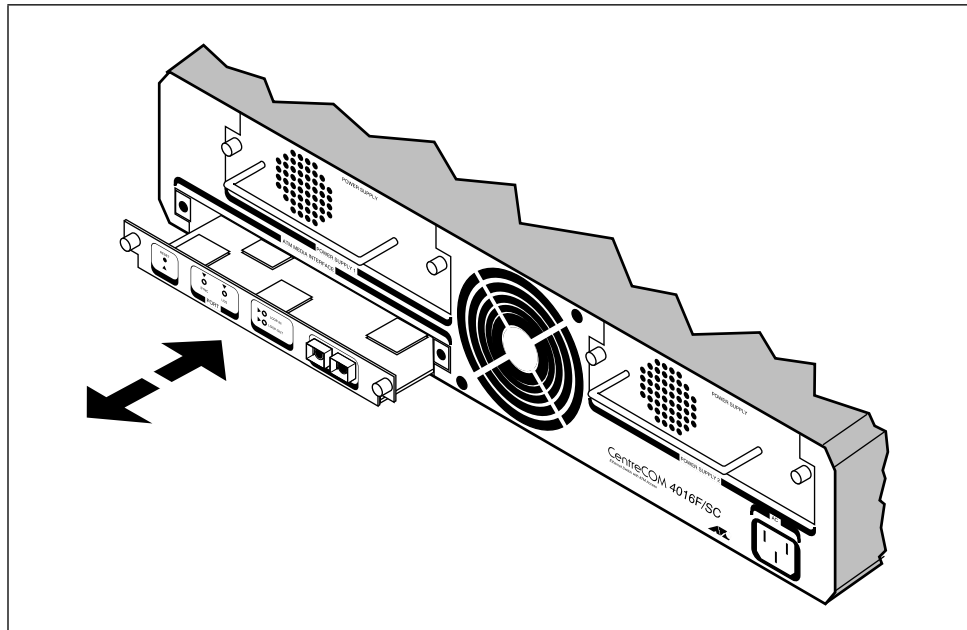

Figure 14: Replacing an ATM Media Module
4. If you are replacing a module, unplug the current module from the AT-4016F's 96-pin ATM Media card connector and slide it out from the housing (see Figure 14).